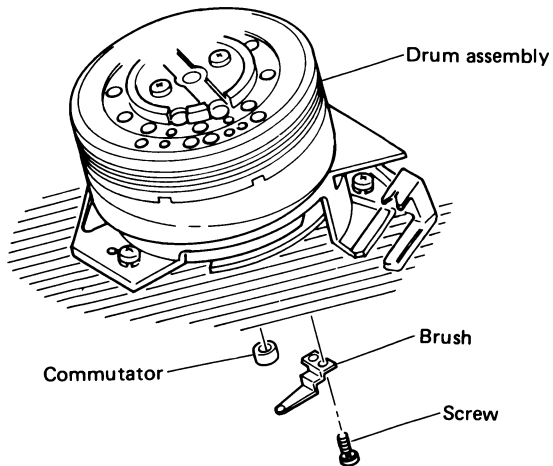

Fig. 2-14 Brush replacement
2.3.9 Brush (See Figure 2-14.)